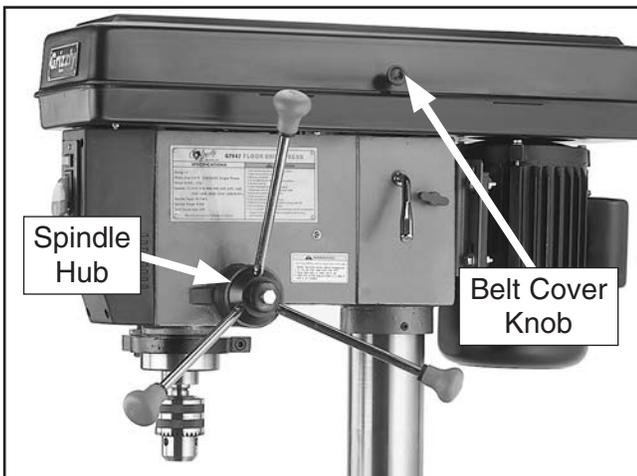

Figure 24. Downfeed handles and belt cover knob installed.
21. Thread handles into spindle hub, as shown in **Figure 24**, and tighten.
22. Remove screw that fastens belt cover in place and replace with belt cover knob (see **Figure 24** for location).